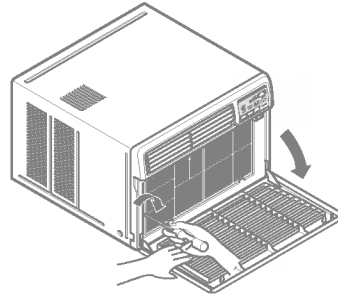

Fig. 2
- Lift the inlet grille and secure it with a screw through the front grille. (See Fig. 2)